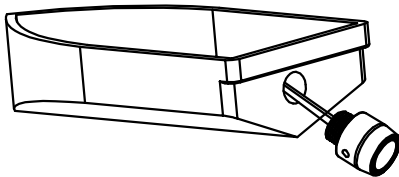
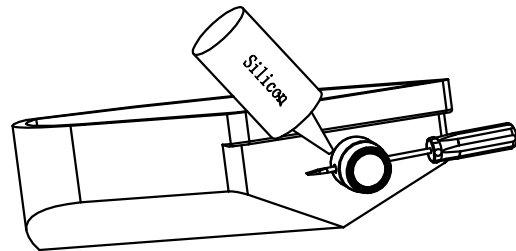

FIG 4
FIG 5
3. With the boat out of the water,remove your old 1/2" NPT boat plug, apply sealant around the drain hole and 3 mounting holes(Ref.FIG 4) and slide the wire through the drain hole (Ref.FIG 5).
4. Insert a screwdriver into the hole of the light and screw the light into the drain hole.Then apply the sealant to fill the gap between the light and the boat (Ref.FIG 5).